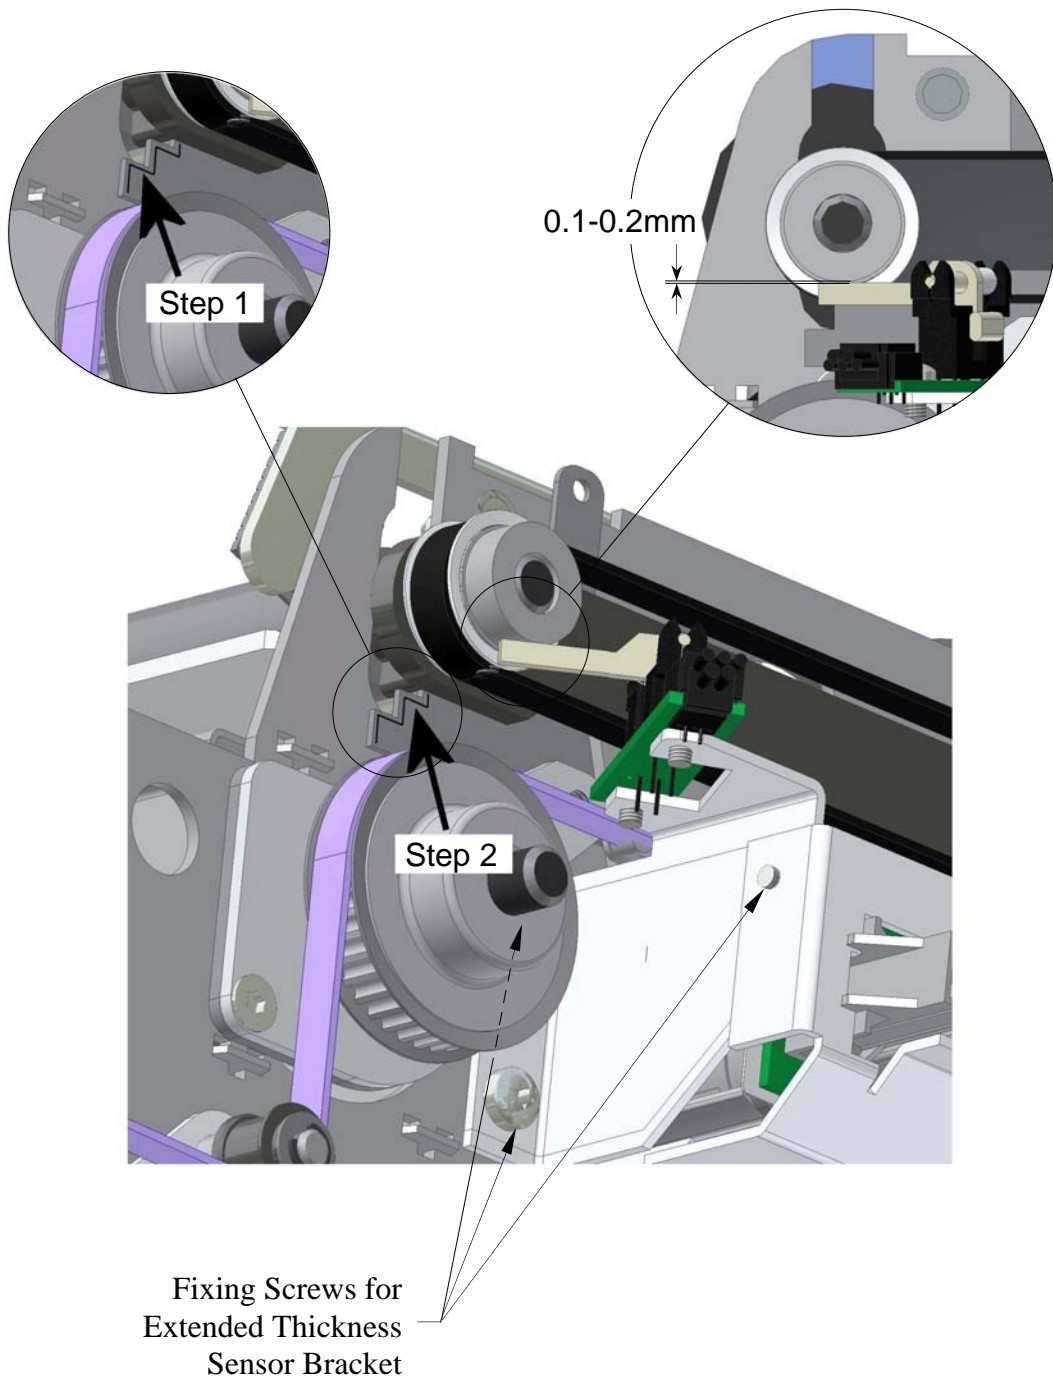

Fig. 2-12, Adjustment of Extended Thickness Sensor
See Fig. 2-12, page 29.
2. Set Thickness Adjustment Sliders to pos. 6 (step 2) at both sides, see Fig. 2-12.
3. Close Lid to lower the Idler Rollers to pos. 6.
7. Set Thickness Adjustment Sliders to pos. 3 (step 1), see Fig. 2-12..